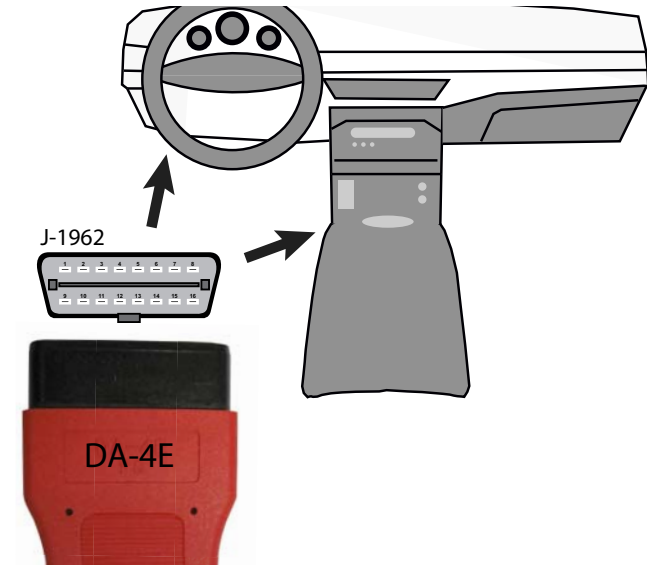

Figure 3-3
2. Connect the 16-pin (J-1962) end of DA-4E cable (*Figure 3-3*) to the vehicle DLC.